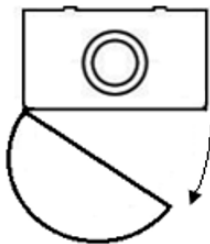

Fig. 1
- Squeeze the sides and hinge the diffuser away from the fitting (see Fig. 1)